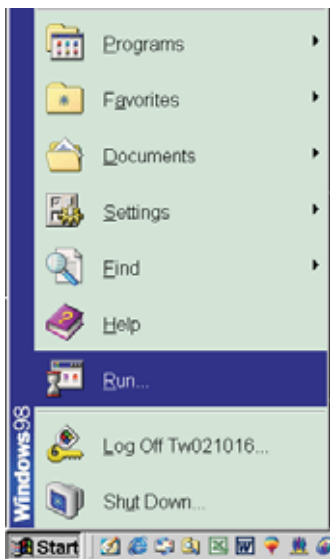

Fig. 5
2. Click Start , choose Run at start menu of Windows as shown In Fig. 5.